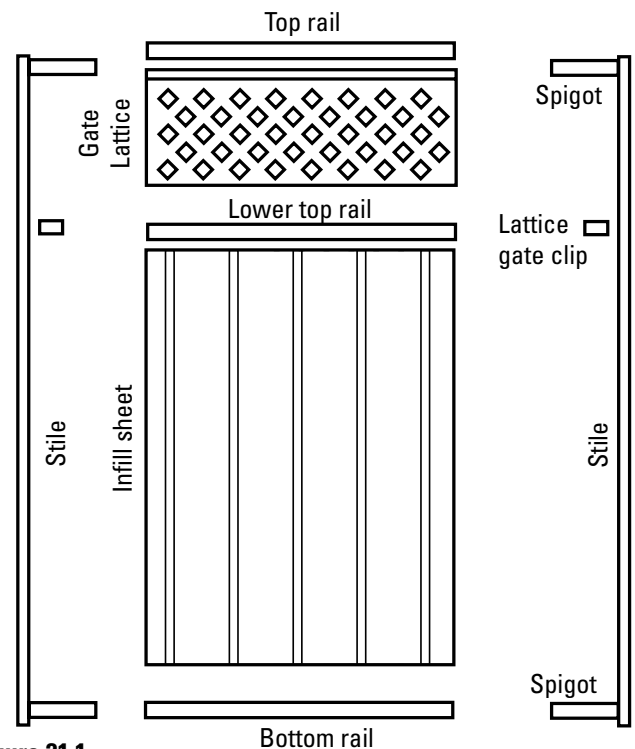

Figure 21.1
2. Lay out all the components (Figure 21.1) on some soft material to protect the COLORBOND steel finish.
If a lattice is used, ensure that the lower top rail fits neatly onto the lattice gate clips. (Figures 21.1, 21.3)